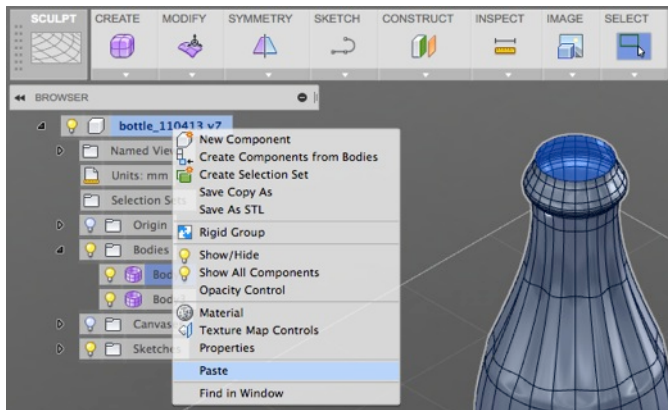

Fig. B12
33. Double click on bottle and select “copy” (Fig. B12).